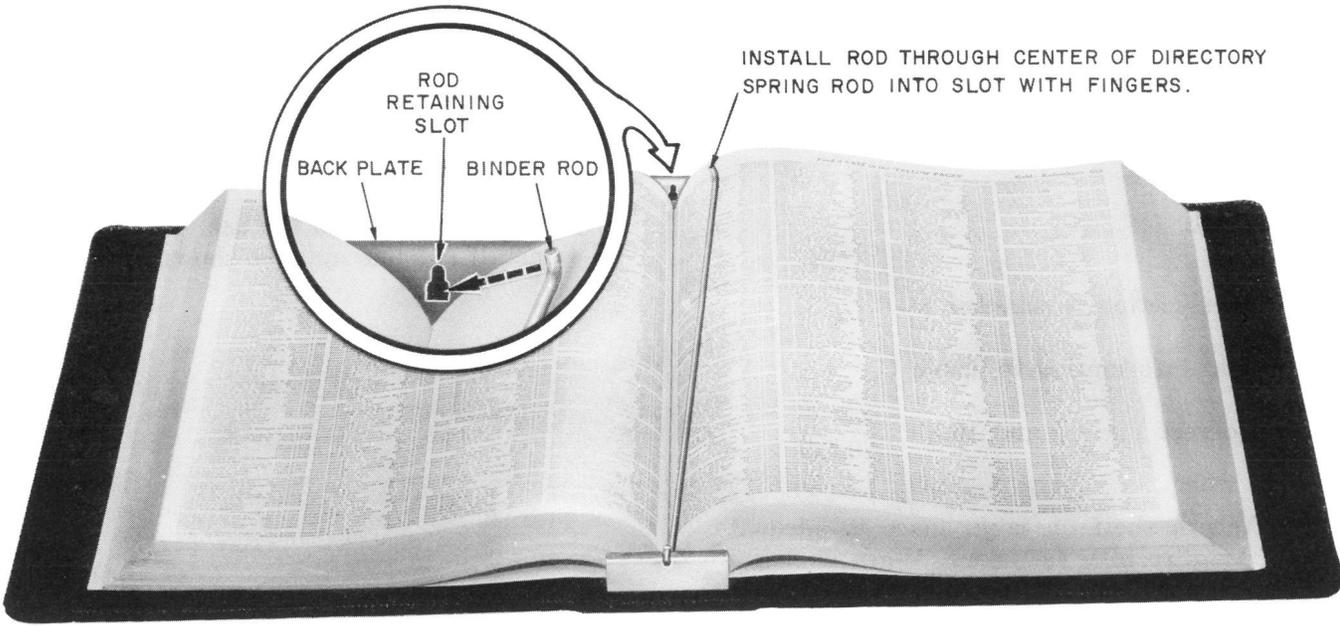

Fig. 3 — Installing Directory in Binder
2.03 With KS-7302 hangers, use directory binders. See Fig. 3.